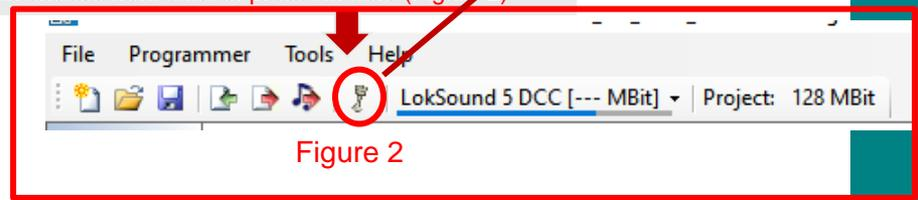

Figure 2
**TIP:** find an OEM ESU File that closely matches your locomotives motor and start with the values for the CVs on this page, then tweak/adjust from there. Alternately, you can choose from a list of preset motors (Figure 2)
TIP: find an OEM ESU File that closely matches your locomotives motor and start with the values for the CVs on this page, then tweak/adjust from there. Alternately, you can choose from a list of preset motors (Figure 2)